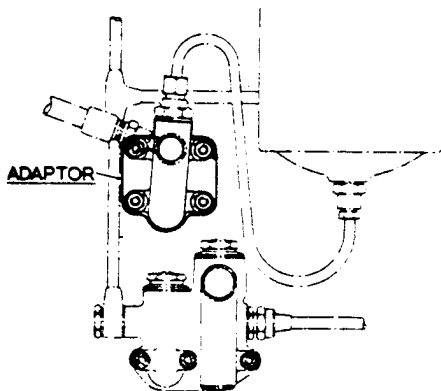
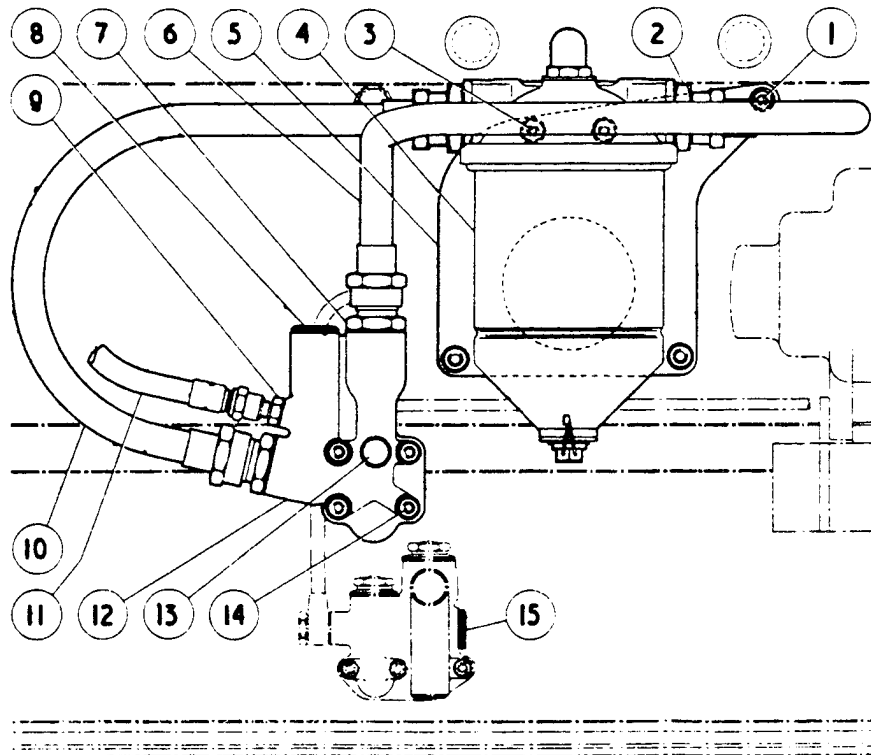

FIG.1. ADAPTOR-OIL FEED (EARLIER TYPE)
FIG. 3. FRONT ELEVATION - FULL FLOW OIL FILTER.
The crankcase casting was altered for this purpose, the vertical passage to the gallery being diverted to the lower orifice of a new "external" facing approximately 3" (76mm) above the oil relief valve unit; the upper orifice in this facing communicating with the gallery. The pipes leading to and from the Vokes filter, and also the oil pressure gauge pipe, are connected to an adaptor mounted on the facing. Fig.3 illustrates the external layout, but depicts a Vokes E-62 filter (centre bolt lid fixing) which is now used instead of the E-30 type (six bolt lid fixing).
SCHEME 'A' conforms to the layout shown in Fig.3, and is relatively simple in installation, being confined to external alteration only. It can be applied to engines, the crankcase of which have the adaptor facing referred to above. Generally speaking, this modification to the crankcase was first introduced at the commencement of 'H' series to provide a means of employing full flow filtration on unit test, and in anticipation of the scheme becoming standardised later. Crankcases of this type may be recognised by reference to Figs. 1 & 2, which show special adaptors used in conjunction with the original By-Pass Filters.
3. INSTRUCTIONS FOR FITTING: (REFER TO FIG.3)